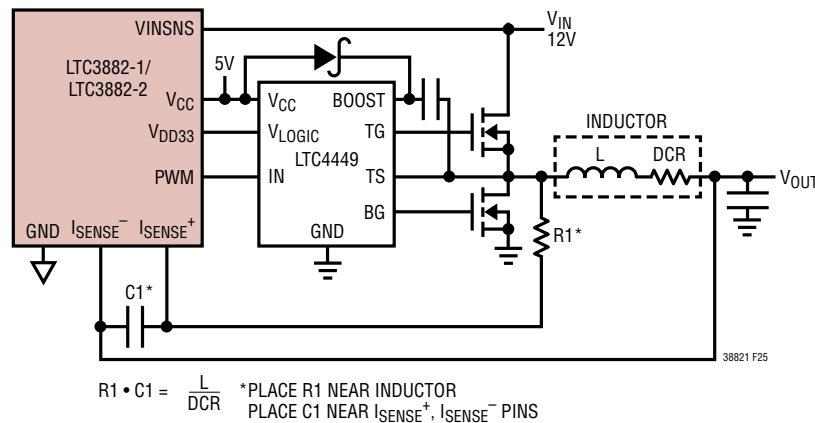

Figure 25. Inductor DCR Output Current Sense
5. Place the output current sense resistor (if used) immediately adjacent to the inductor output. PCB traces for remote voltage and current sense should be run together back to the LTC3882-1 in pairs with the smallest spacing possible on any given layer on which they are routed. Avoid high frequency switching signals and ideally shield with ground planes. Locate any filter component on these traces next to the LTC3882-1, and not at the Kelvin sense location. However, if DCR sensing is used, place the top resistor ( $R_1$ , Figure 25) close to the switch node.
To maximize efficiency at full load the LTC3882-1 is designed to sense current through the inductor's DCR, as shown in Figure 25. The DCR of the inductor represents the small amount of DC winding resistance of the copper, which